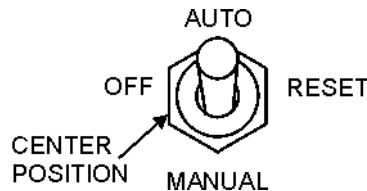

Figure 60. Off/Manual Auto Switch (OFF)
5. Place the Off/Manual/Auto Switch (Figure 60) in the "OFF/RESET" position.